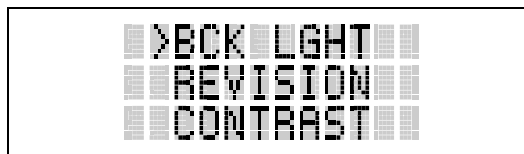

Figure 10-8: Menu Display
2. Upon entering the menu selection mode, Menu options will appear in the display (see Figure 10-8).